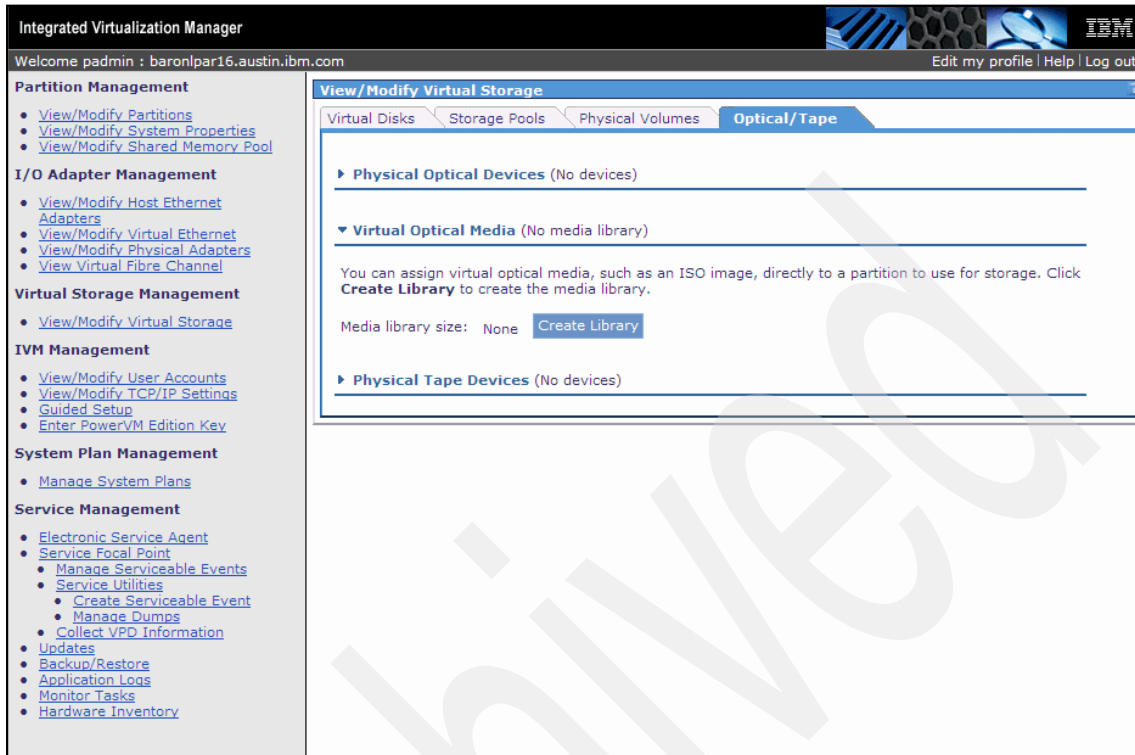

Figure 4-46 Create media library
2. Click the **Optical/Tape** tab in the View/Modify Virtual Storage window to create a media library. Click **Virtual Optical Media** section to expand it. Then, click **Create Library**, as shown in Figure 4-46 on page 131.